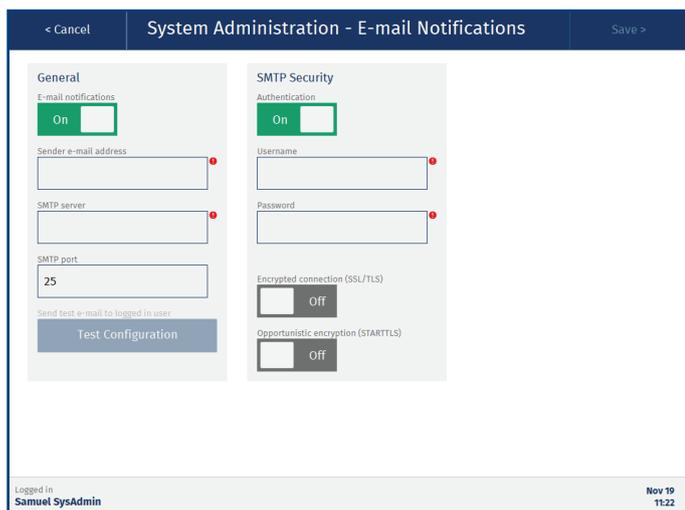

Figure 24. The E-mail Notifications view.
3. In the **General** and **SMTP Security** fields (see Figure 24), enter the required information. Please contact your IT department to get the correct settings for your e-mail server.